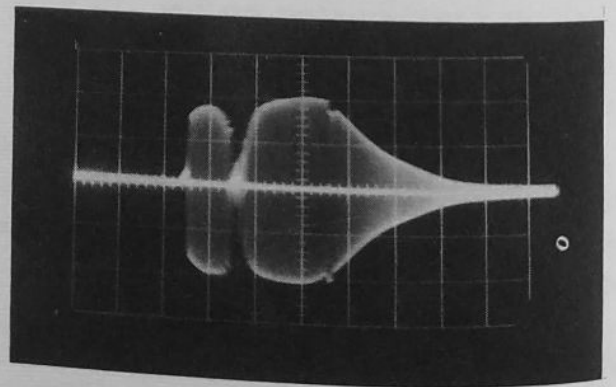

Figure 28. Input, 2V15, Pin 1. Output, 2V6, Pin 8. Marker on .5 mc.
27. The response should be as shown in Figure 28.